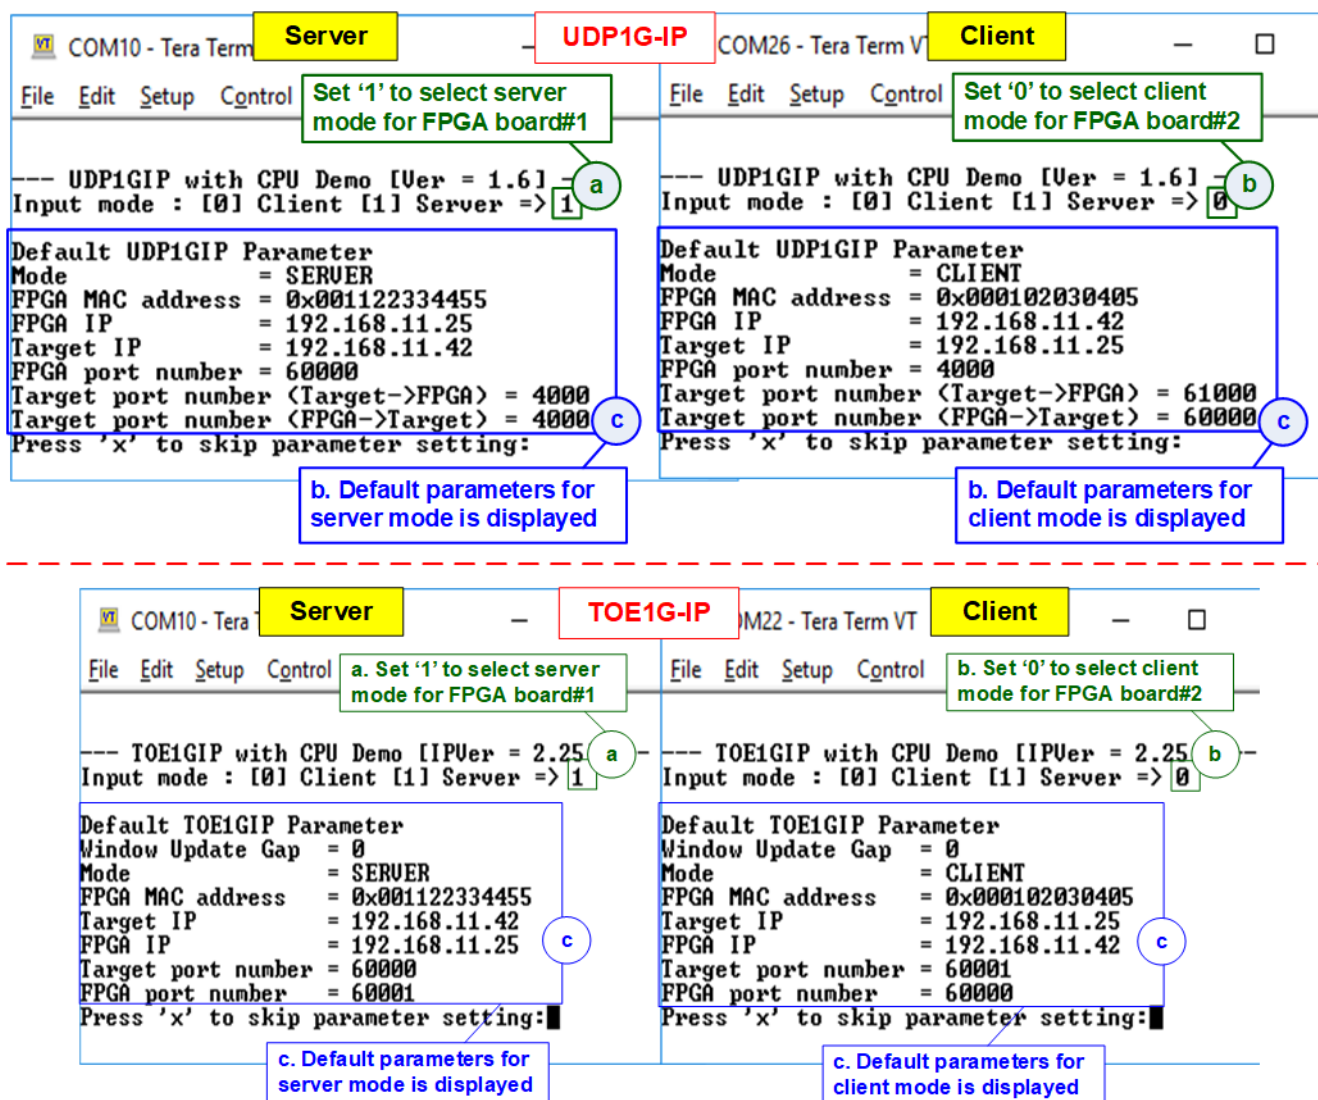

Figure 2-2 Input mode
- c. Default parameters for server or client are displayed on the console, as shown in Figure 2-2.